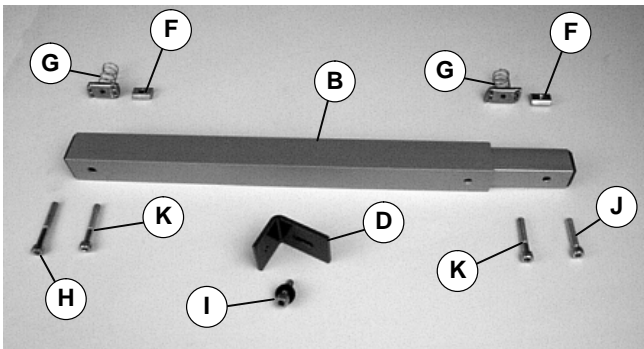

Figure 4
**NOTE:** For steel stands, parts (F & J of Figure 4) are not used; please discard.
**NOTE:** For aluminum stands, parts (G & H of Figure 4) are not used; please discard.